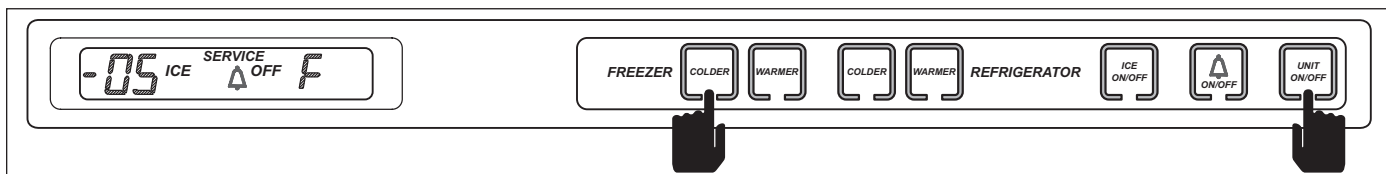
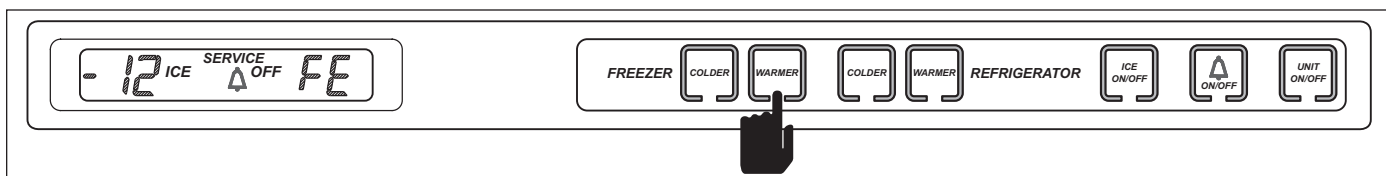
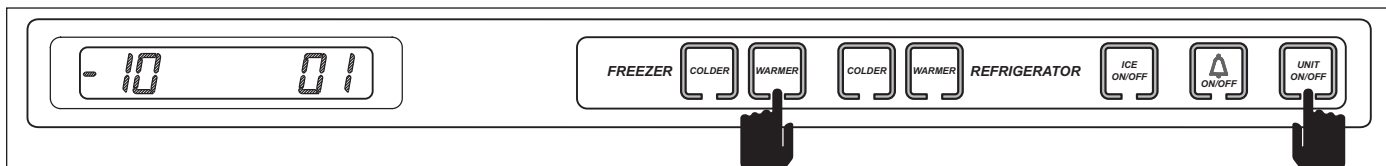
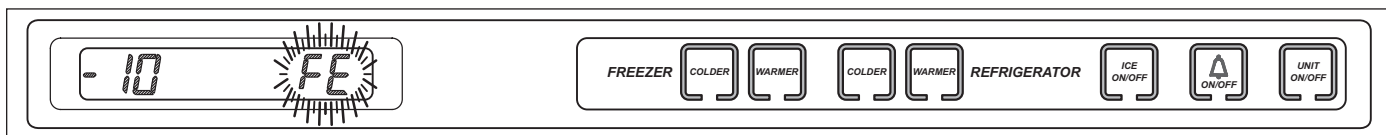

Figure 3-63. Initiate Diagnostic Mode - Press and Hold Either COLDER Key, then the UNIT ON/OFF Key
Figure 3-64. Toggle Through Temperature Readings - Press Either COLDER Key or Either WARMER Key Until Desired Thermistor Temperature is Displayed
Figure 3-65. Initiate Temperature Log Recall Mode To View Temperature History - Press and Hold Desired WARMER Key and UNIT ON/OFF Key
Figure 3-66. Thermistor Location Code Flashes Every Three Seconds
**Initiate Temperature Log Recall Mode To View Compartment and Evaporator Temperature History** - Begin with the unit ON and in Diagnostic Mode (See Figure 3-63). While in Diagnostic Mode, toggle through the readings until the desired thermistor temperature is displayed on the LCD (See Figure 3-64). Now, press the WARMER key for that compartment and the UNIT ON/OFF key simultaneously (See Figure 3-65). The left display area on the LCD will show average thermistor temperature and in the right display area will be the index number "1" indicating the most recent 2-hour temperature average (See Figure 3-65). The right display area will also flash the thermistor location code at three second intervals (See Figure 3-66).